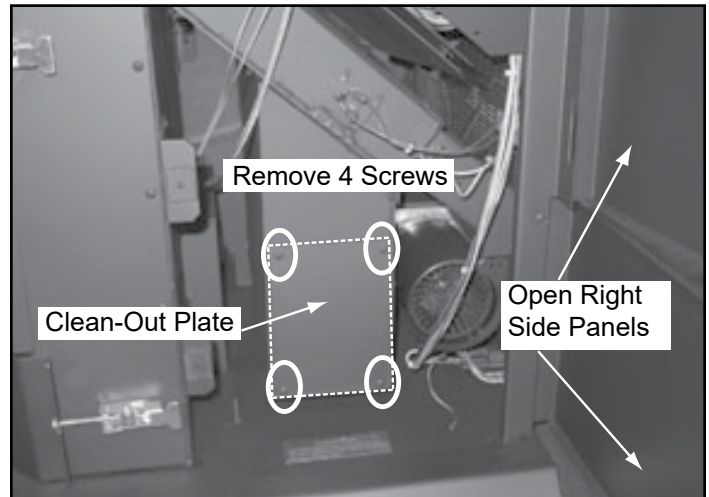

Figure 21.2
- a. Open both the upper and lower right side panels (**Figure 21.2**).
- b. Using a Phillips head screwdriver remove the 4 screws from the clean-out plate and set aside (**Figure 21.2**).